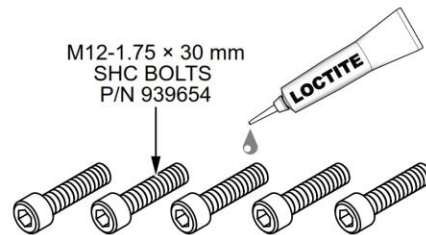

Figure 8. Apply Loctite® 242™ to New Bolts
5. Apply Loctite® Blue 242™ (P/N 1477) to the threads on five new M12-1.75 x 30 mm SHC bolts (P/N 939654). See Figure 8.